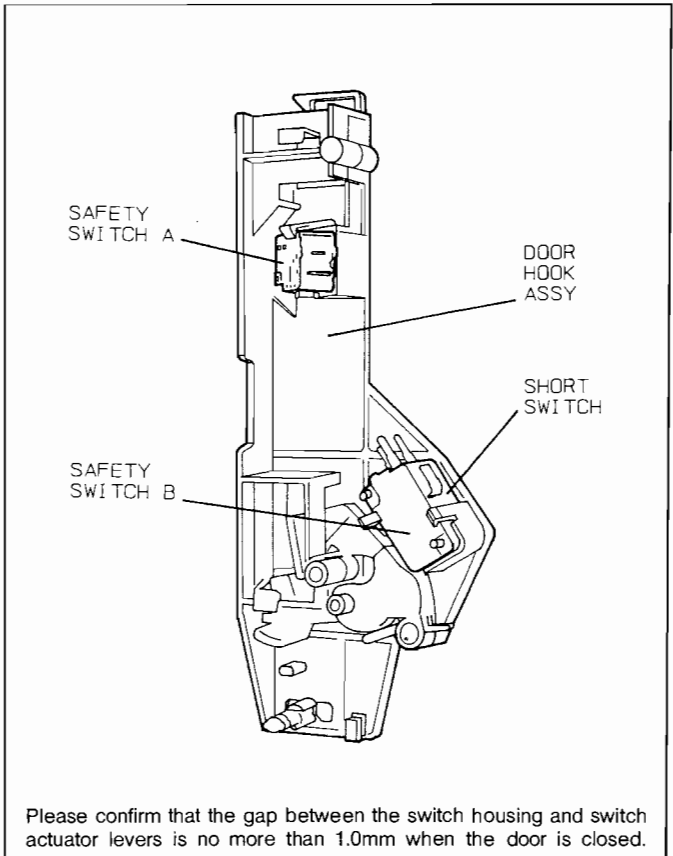

Fig. 35
(A) When mounting the safety switch A, safety switch B and short switch to the door hook assembly, mount the safety switch A, safety switch B and short switch to the door hook assembly as shown in Fig. 35.